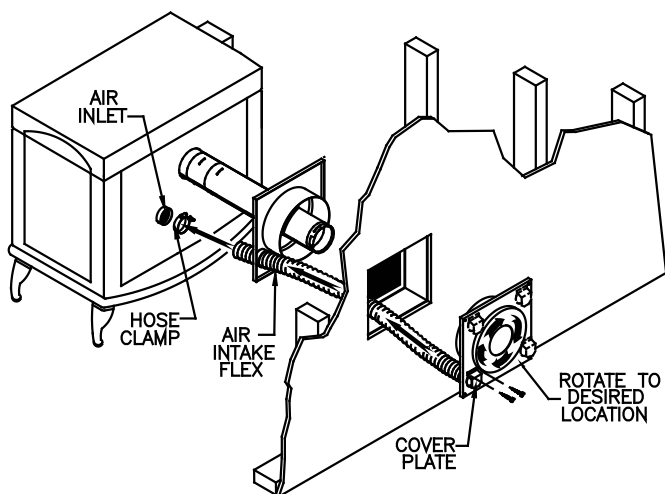

Figure 12
**B.** Cut and frame a square opening in the wall as specified in **Table 1**. PelletVent Pro now offers the standard Wall Thimble or Wall Thimble Air Intake Kit for through the wall installations. The Air Intake Kit allows combustion air to be drawn through the framed Thimble opening, eliminating the need to cut another opening in wall. The small flex provided with this kit allows connection to the Pellet Stove combustion air inlet. Loosely assemble both halves of the Wall Thimble onto Pipe Section. Connect the flexible hose with clamp to the exterior half of the Wall Thimble. Guide the flex through the opening in black interior half of Wall Thimble, gently pull the flex towards appliance (**Figure 12**), and if necessary trim excess flex to required length with snips. Secure flex to combustion air inlet